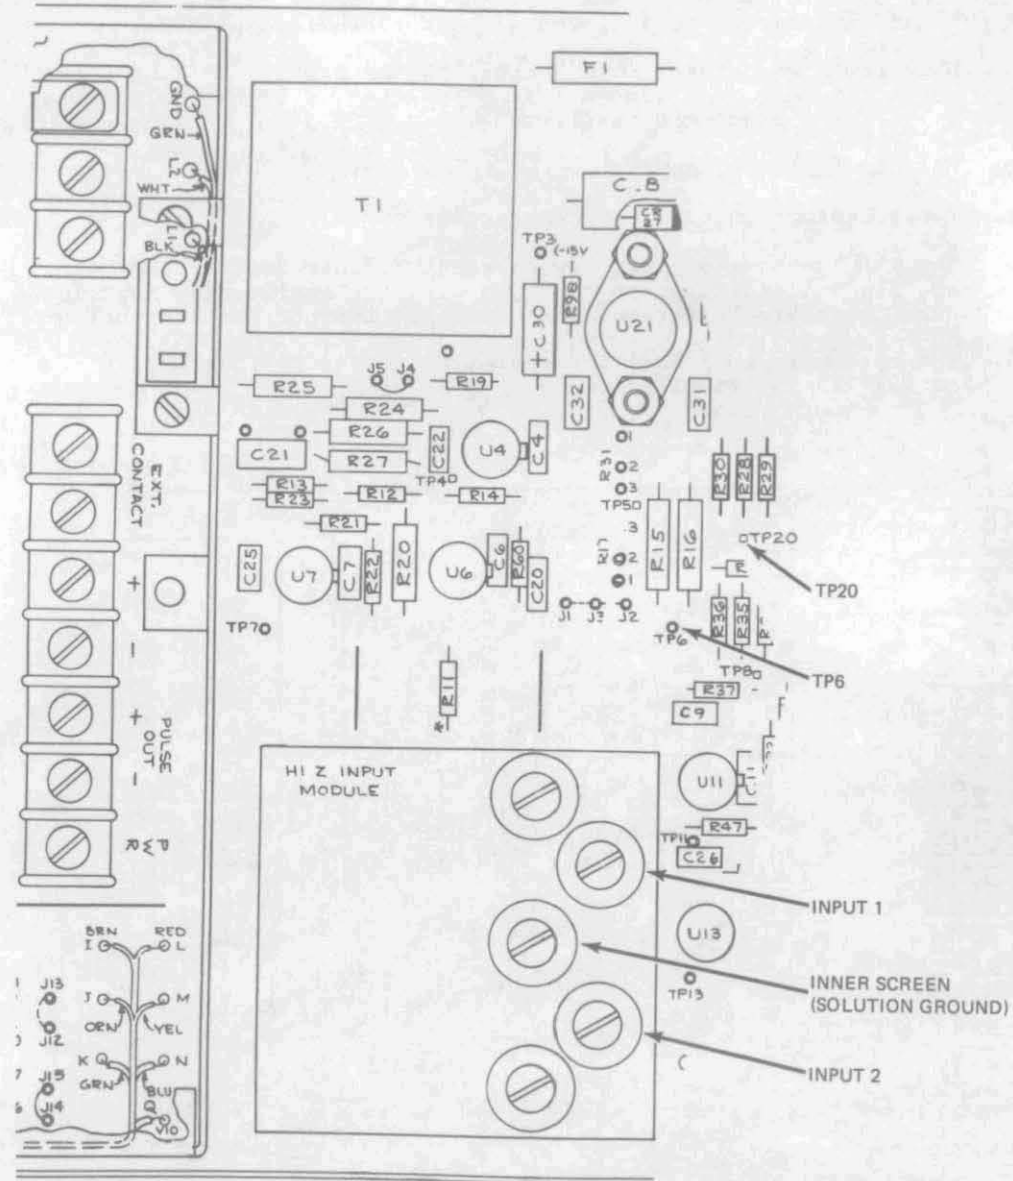

Figure 3
- a. Refer to Figure 3. Connect short jumpers between Input 1, Input 2, and Inner Screen (Solution Ground) terminals.
- b. Connect a battery-powered or earth-isolated (ground-isolated) ac voltmeter between test points TP6 and TP20 (shown in Figure 3). Use voltmeter having a minimum input impedance of 5000 ohms/volt and ranges of 0-to-1.0 and 0-to-0.1 volts.